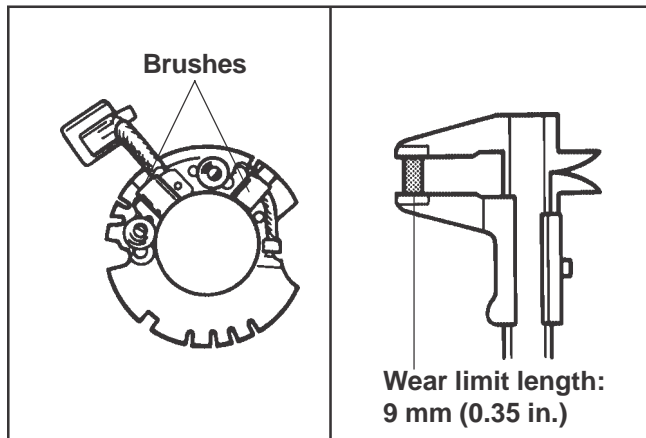

Figure 8-44. Brush Checking.
- Inspect both the springs and brushes for wear, fatigue, or damage. Measure the length of each brush. The minimum length for each brush must be **9 mm (0.350 in.)**. See Figure 8-44. Replace the brush plate assembly if the condition of parts is out of specification or questionable.